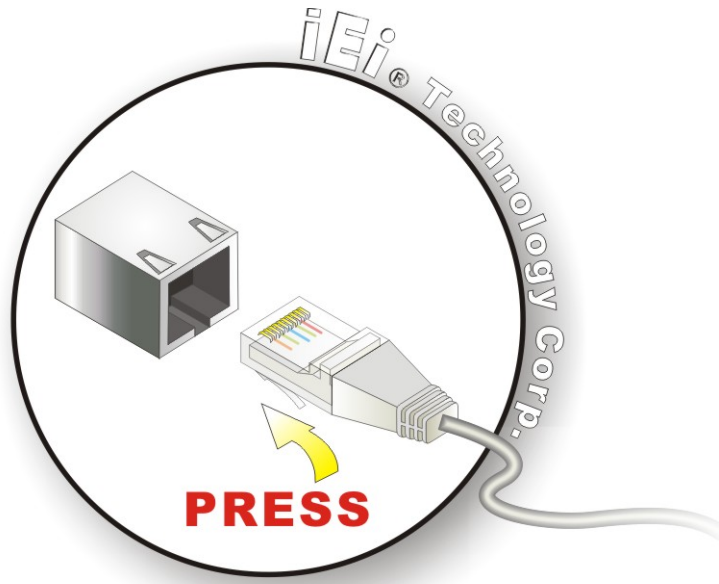

Figure 4-11: LAN Connection
Step 2: Align the connectors. Align the RJ-45 connector on the LAN cable with one of the RJ-45 connectors on the IOVU-572M. See Figure 4-11.